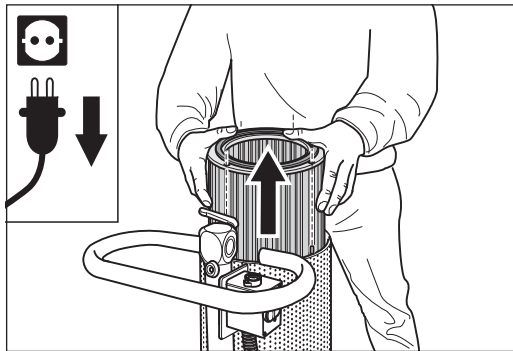

Fig. 69 Lift the filter cartridge out of the filter housing.
- 8 Lift the filter cartridge out of the filter housing (fig. 69). Clean it or replace it by a new one.